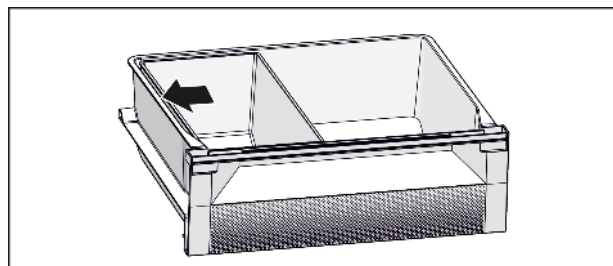

Fig. 7
- ▶ For an optimum cooling function: Position Fish & Seafood tray according to illustration (see Fig. 7).